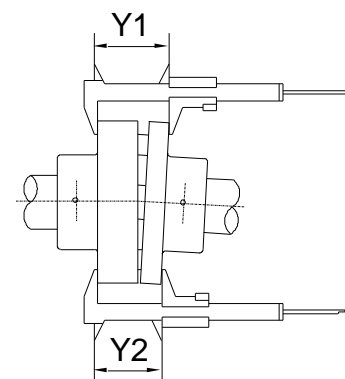

Fig. 14
- 10 - Angular misalignment can be measured with a Calliper. Measure the outside coupling dimension at several points (see fig. 14).